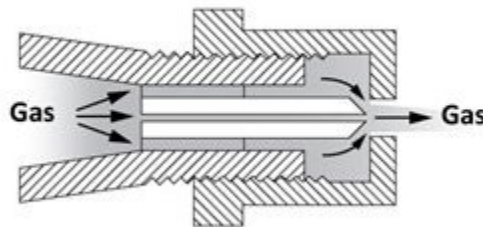

Figure 4 Cap orifice setup for natural gas
- Figure 4 “Atmospheric burner parts” by Camosun College is licensed under a CC BY 4.0 licence (<https://creativecommons.org/licenses/by/4.0/>).
For natural gas use, having a lower heat value, a greater flow rate is required so the orifice cap or hood is unthreaded (counter-clockwise) away from the needle. This allows the gas to also flow both through around the needle opening and around the opening between the shoulder and the edge of the orifice in the hood (Figure 4). For the most part the opening size in the hood becomes the fixed orifice for the required natural gas flow rate, but some flow rate adjustment is available by fine tuning the amount of gas that can squeeze through the area between the needle shoulder and the edge of the cap hole.